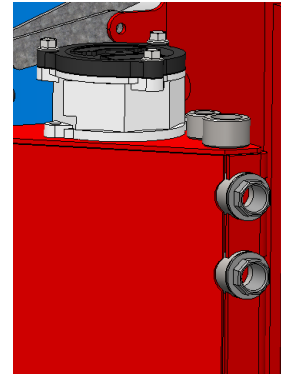

Figure: 10
- Check the oil level in the hydraulic tank: The oil level must be between the upper and lower sight glasses on the left side of the machine. Top up with Hydro 32 if necessary (see *figure 10*).